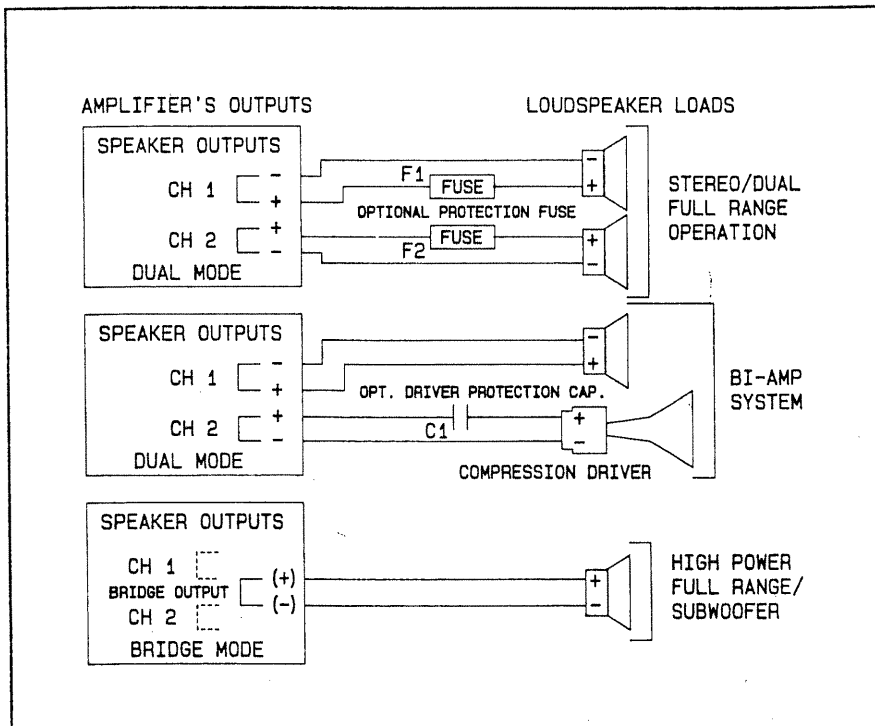

Figure 4 Typical Output Connections
Output connections are made to the binding post connectors located on the rear. The Red post is the high (+) output and the Black post is the low (—) output. Refer to Figure 4 for typical output connections.
Use 32 volt fuses if possible; they typically have the lowest internal resistance which will help minimize deterioration of the damping factor at the load. Refer to the example in Figure 4.
Compression drivers, used for mid to high frequency sound reproduction, are much more susceptible to damage from low frequencies than large cone loudspeakers. Even though an electronic crossover may be employed, problems may arise in the cables between the crossover and the power amplifier, or from misadjustment of the crossover. Either of these situations could apply low frequency signals or hum to the driver and cause damage. To prevent a potential mishap, Electro-Voice recommends using a capacitor between the amplifier and the compression driver to suppress low frequencies and possible DC. Refer to the example in Figure 4.
3. Verify that the output connections are properly made. Refer to Figure 4.
**NOTICE:** *Repairs performed by other than authorized warranty stations (Dealers) or qualified personnel shall void the warranty period of this unit. To avoid loss of warranty, see your nearest Electro-Voice authorized dealer, or call Electro-Voice Customer Service directly at (616) 695-6831, FAX (616) 695-1304, or write:*